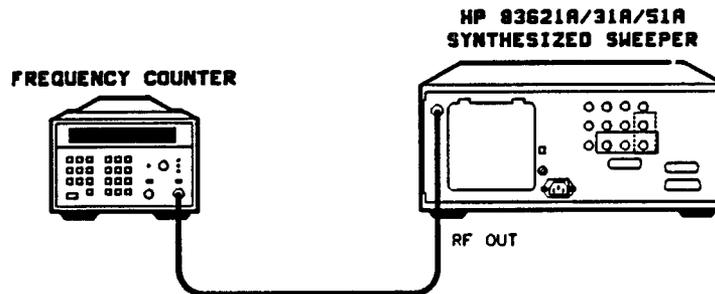

Figure 2-1. CW Accuracy Test Setup
1. Connect the equipment as shown in Figure 2-1. Preset the instruments and let them warm up for at least one hour.